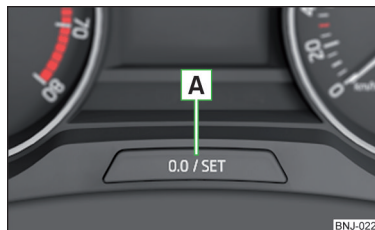

Fig. 34
- › Press button **A** » Fig. 34 on page 46.
- › Press and hold the button **A** » Fig. 34 until the time is shown in the display.